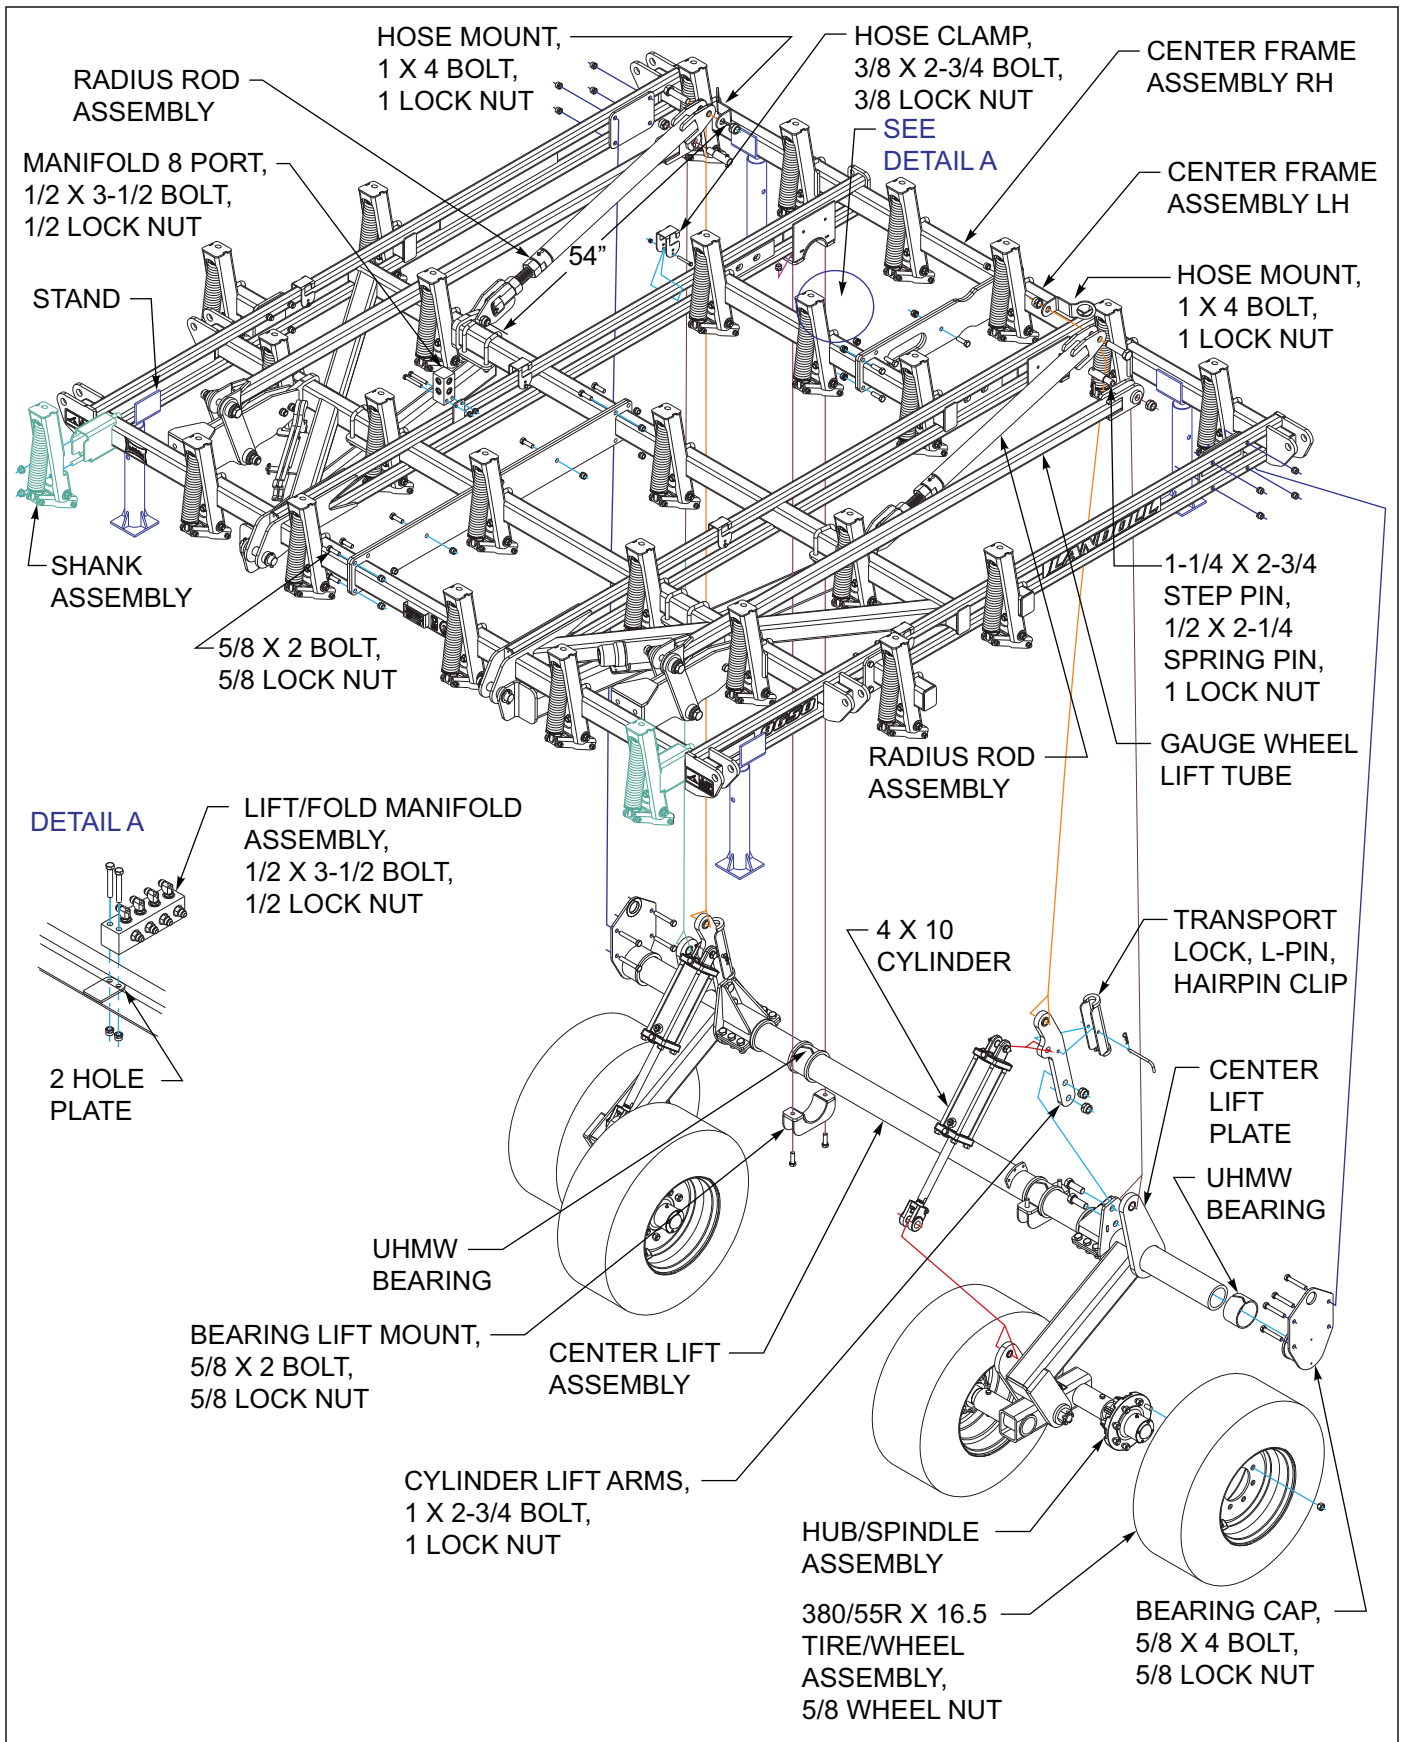
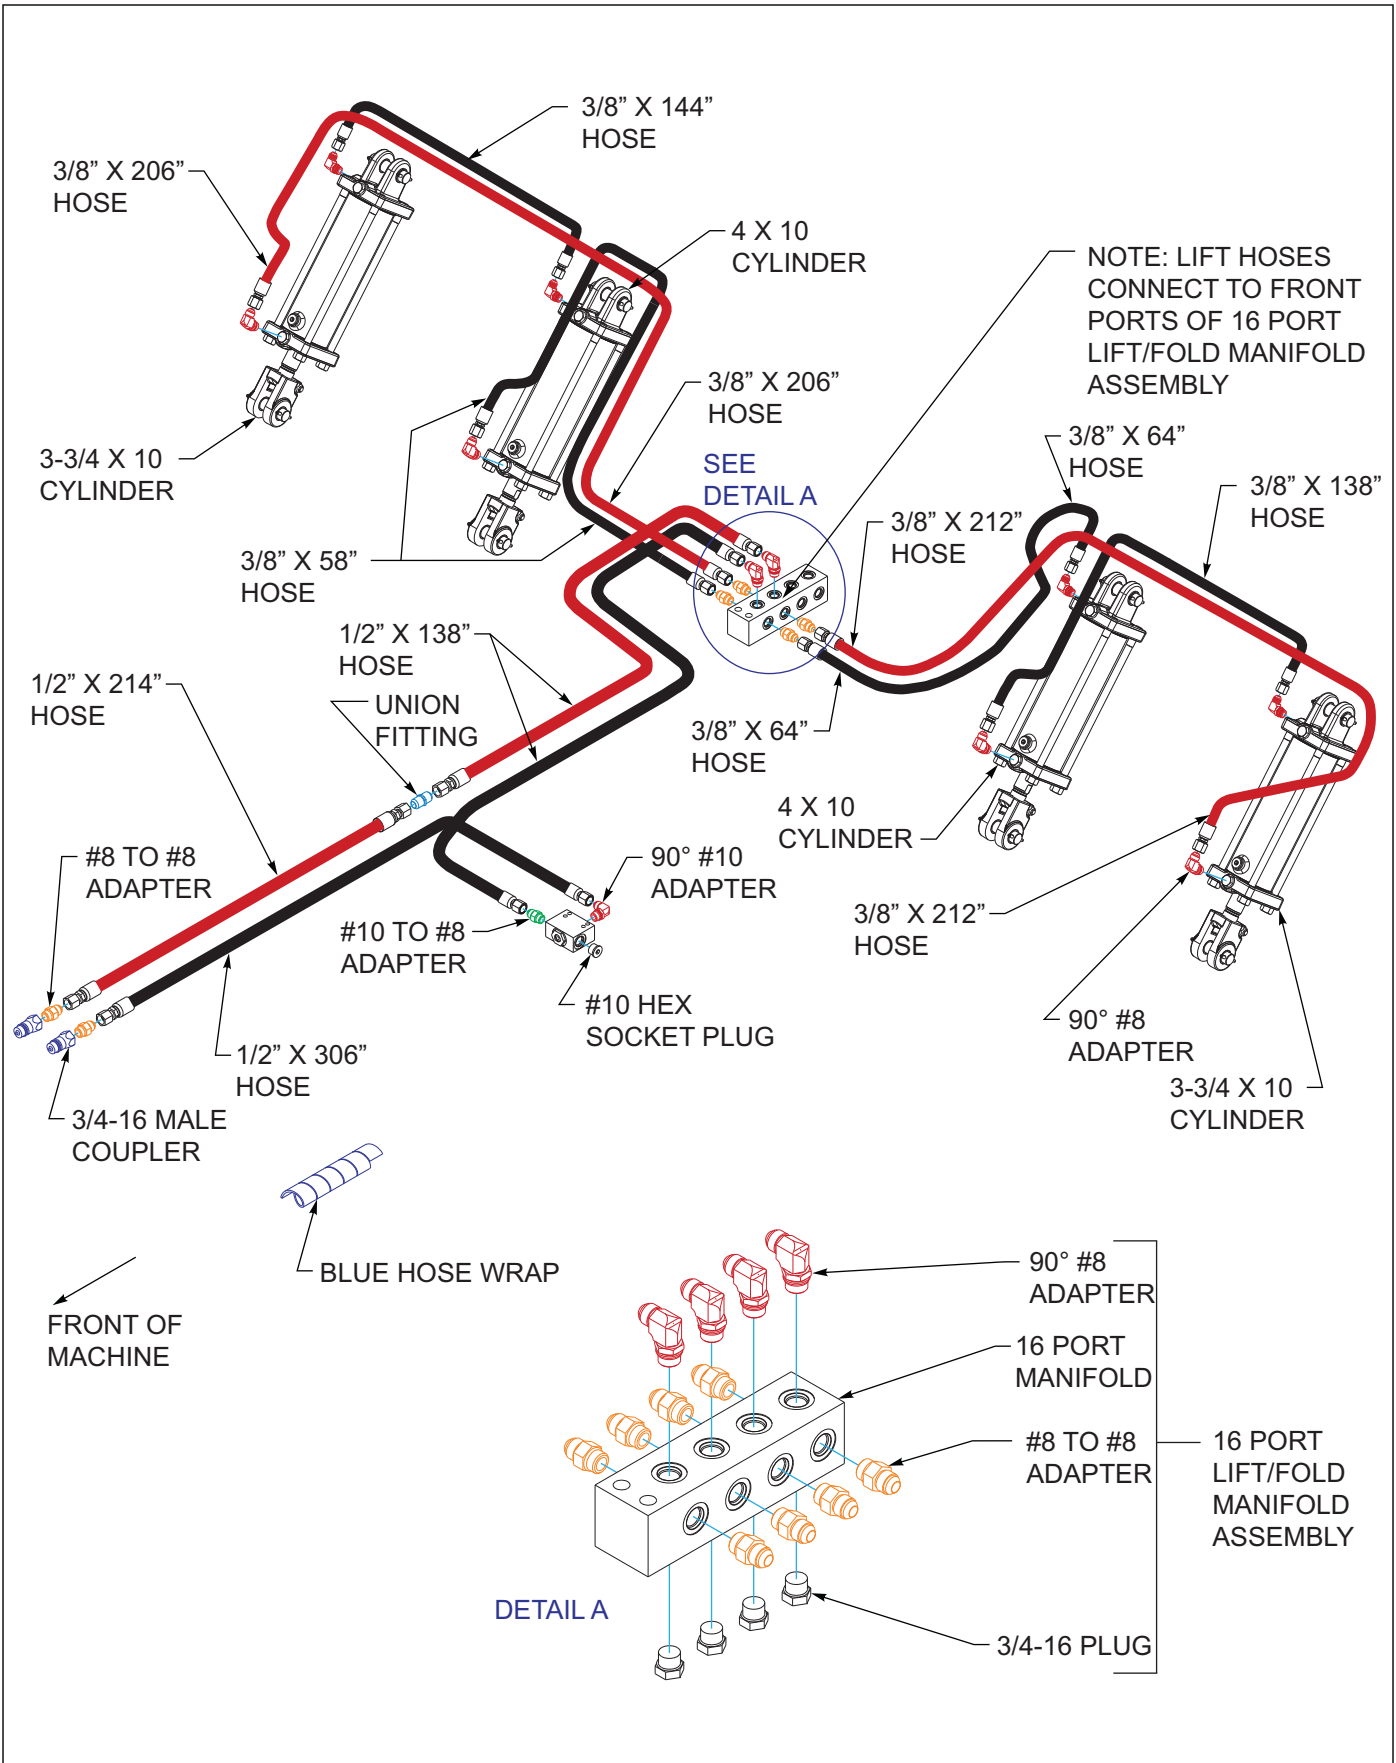

Figure 3-1: Center Frame Assembly
Figure 3-10: Hydraulic Lift Installation 9630FH
2. Bolt the two center frame halves together using 5/8 x 2 bolts and locknuts *See Figure 3-1*.
15. Install the 8 port manifold to 2 hole plate toward front of center frame assembly with 1/2 x 3-1/2 bolts and 1/2 lock nuts *See Figure 3-1*.
16. Install the lift/fold manifold assembly on 2 hole plate on rear of center frame tube using 1/2 x 3-1/2 bolt and 1/2 lock nut *See Figure 3-1*.
See Figures 3-10 or 3-13 for hydraulic cylinder fittings (factory installed and those installed during setup.)
3. Install 90 degree regular adapter fittings in both ends of all lift cylinders (4 x 10 and 3-3/4 x 10) See Figures 3-10. Install base fitting in side port, with both fittings pointing upward.
2 hose mounts used on center section See Figure 3-1 & See Figure 3-10 for placement and orientation.
7. Install lift system hoses per **Figure 3-10**. Wrap lift system hoses with blue hose wrap.